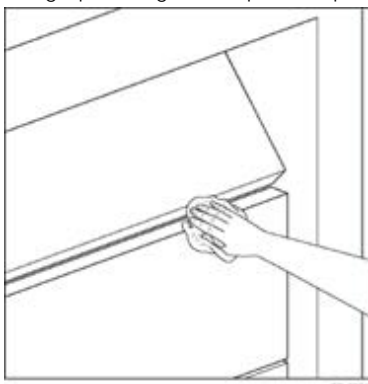

Figure 14. Cleaning the Door Fold Seams
1. Clean the door following the information in the “Substrate Preparation” section on page 3 and ensure the inside of the door seam is washed clean and then dried. Lift the door enough to thoroughly clean the top and bottom lips of the panels. See Figure 14.